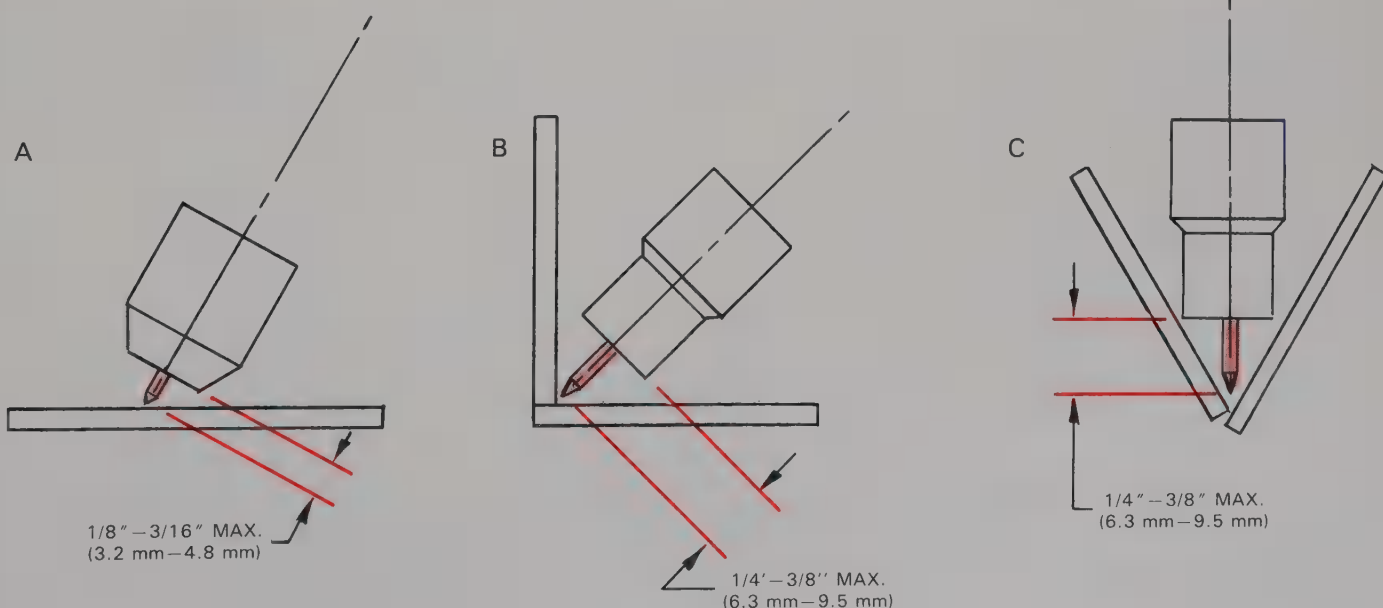

Fig. 22-5. The electrode extension distance varies for different types of joints. It should never be greater than the nozzle diameter.
5. Insert the electrode into the collet. When correctly inserted, the electrode will extend past the end of the gas cup only a short distance. The distance depends on the type of joint being welded, as shown in Fig. 22-5.